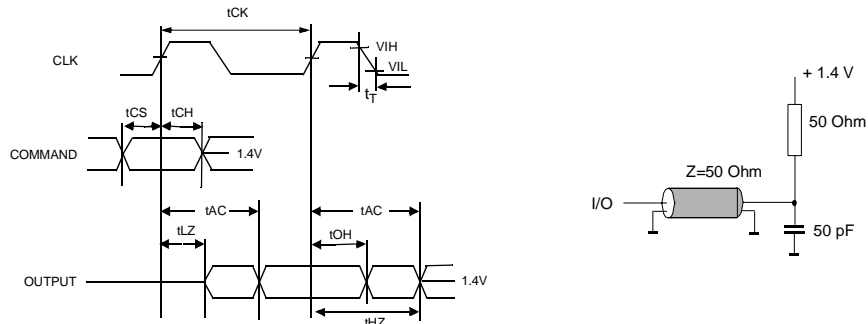

Figure 1.
2. AC timing tests have $V_{IL} = 0.8V$ and $V_{IH} = 2.0V$ with the timing referenced to the 1.4 V crossover point. The transition time is measured between V_{IH} and V_{IL} . All AC measurements assume $t_T = 1ns$ with the AC output load circuit shown in Figure 1